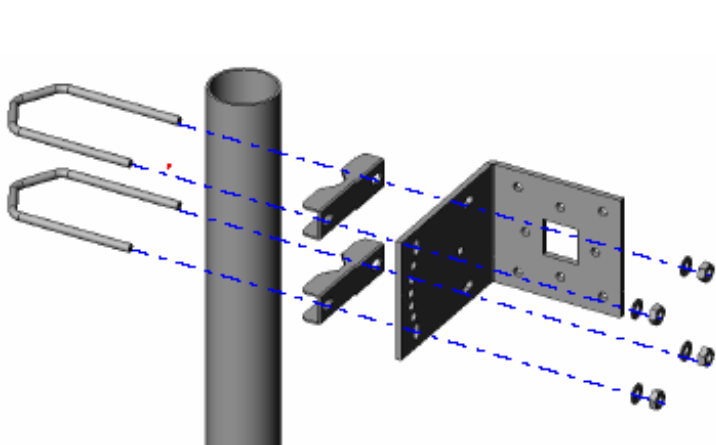

Figure 3. Bracket mounting for strength
1. The antenna can be mast-mounted as shown in figures 3 and 4 for high-strength OR tilt mount respectively.